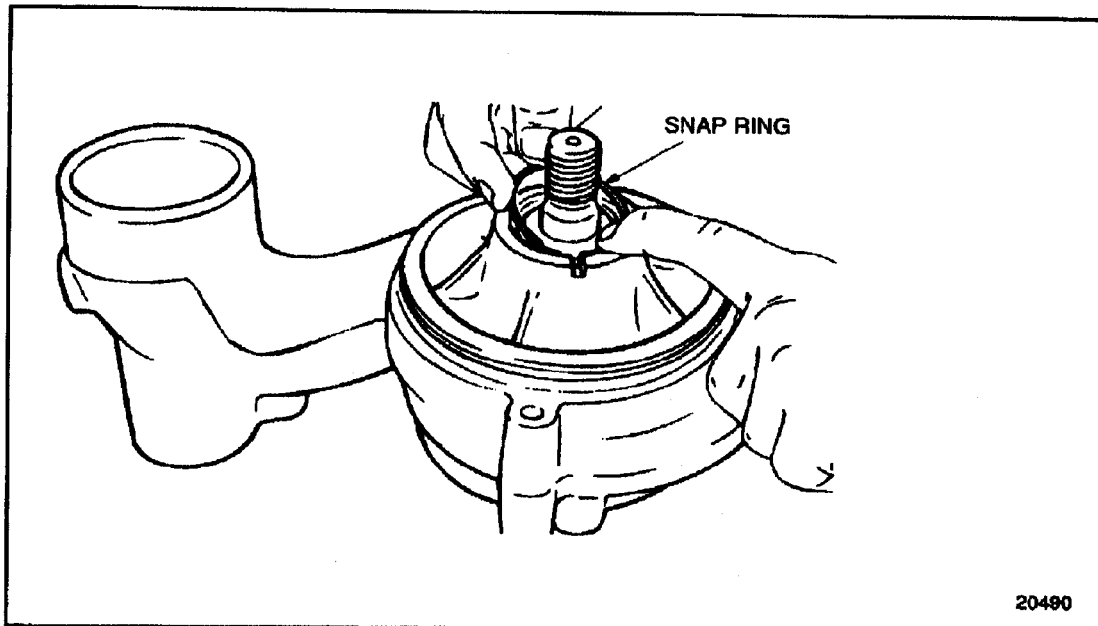

Figure 4-41 Snap Ring Removal (FM)
5. Remove the snap ring from the water pump housing. See Figure 4-41.